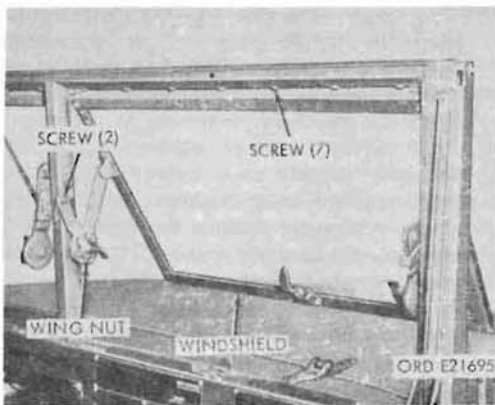

Figure 259. Windshield
a. General. Windshield (fig. 259) is made with two independent sections assembled in
b. Removal (Fig. 259).
- (1) Remove windshield wiper motors (par. 232).
- (2) Extend windshield and tighten wingnut.
- (3) Remove the screws holding the windshield to the adjustable support brackets.
- (4) Remove the screws holding the windshield hinge section to the windshield frame.